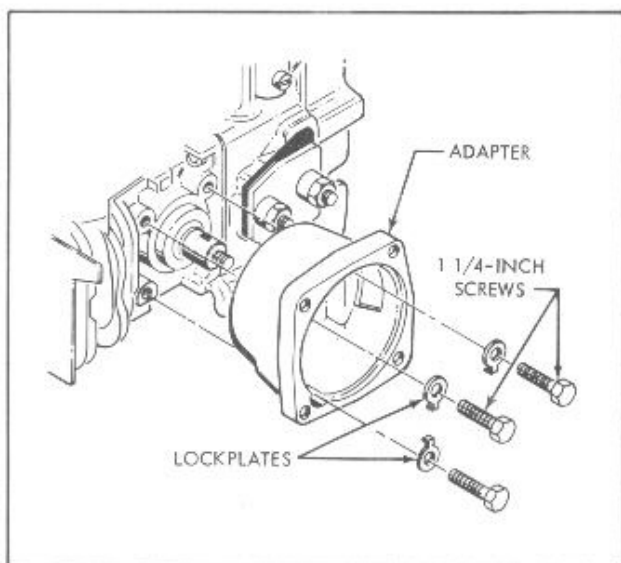

Figure 5. Install Accessory Adapter
3. Place the accessory adapter against the side of the crankcase with the three holes in the adapter lined up with the three screw holes in the side of the crankcase (figure 5).